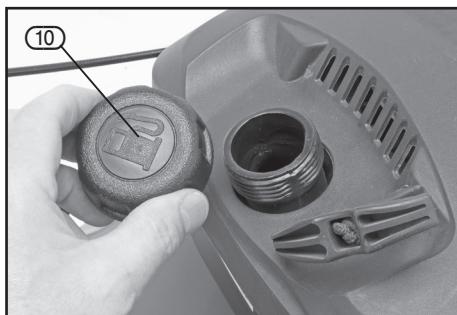

FIG. 15
8.8 FILLING WITH ENGINE FUEL – FIG. 15